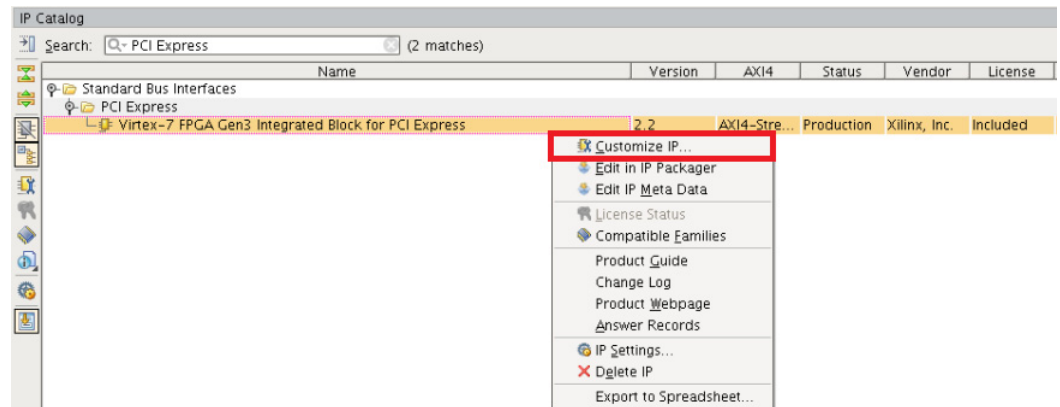

Figure 10: Customizing the IP
4. Right-click **Virtex-7 FPGA PCI Express Gen3 Integrated Block** and select **Customize IP** (see Figure 10).